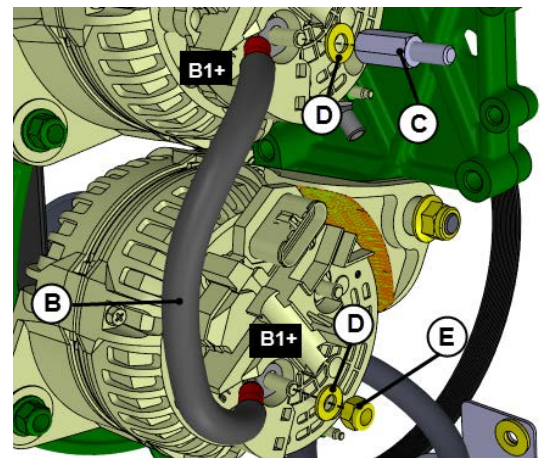

FIGURE 18
23. Connect jumper cable **B** to **B1+** stud terminal of the upper alternator and the lower alternator using hardware shown on FIGURE 18.